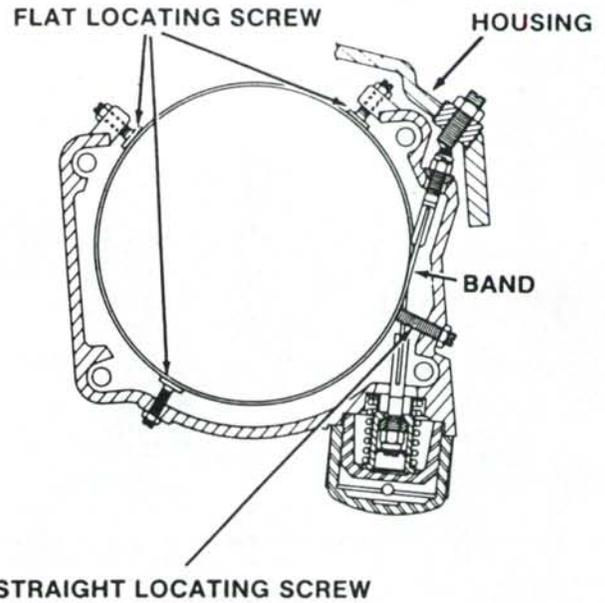

Fig. 202—View of rear planetary brake band and housing showing location of the four locating screws.
**264. REINSTALL PLANETARY ASSEMBLIES.** Be sure brake band locating screws are in place in center housing. See Fig. 202 and 203. Install rear brake band in housing, then position rear planetary in center carrier.